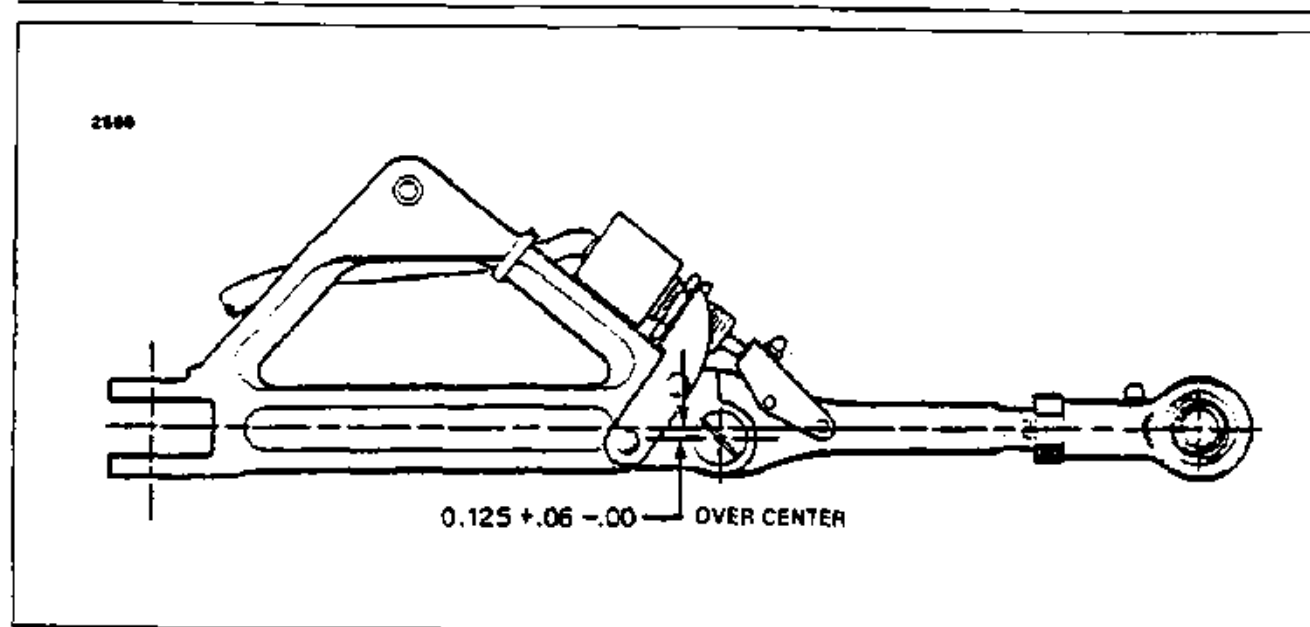

Figure 7-8a. Main Gear Side Brace Link Travel
7. Check side brace link through center travel by attaching the upper and lower links, setting them on a surface table, and ascertaining that when the stop surfaces of the two links touch, linkage is not more than  $\pm .125$  of an inch  $+.061-A0$  through center. Should the distance exceed the required through center travel and bolt and bushings are tight, replace one or both links. (Refer to Figure 7-8A.)